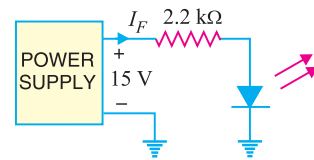

Fig. 7.5
**Example 7.2.** What is current through the LED in the circuit shown in Fig. 7.5? Assume that voltage drop across the LED is 2 V.